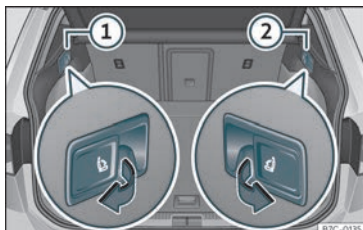

Fig. 102 In the luggage compartment: levers for remote release of the left part ① and right part ② of the rear seat backrest.
- Pull the unlocking lever >>> Fig. 102 of the part of the backrest to fold down.